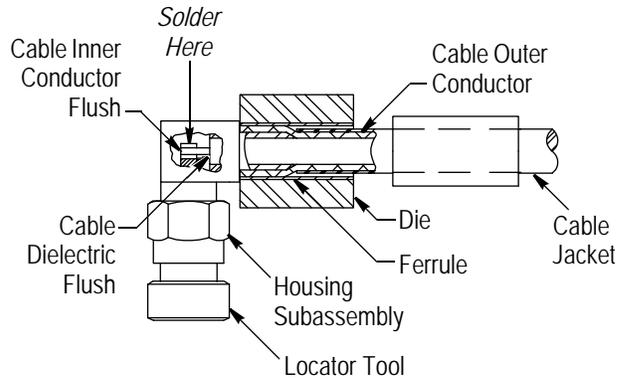

Figure 4
1. Slide the collar between the cable outer conductor and the cable dielectric. See Figure 4.
1. Secure the threads of the housing subassembly to the locator tool. See Figure 4.
5. Hold the cable dielectric and inner conductor flush as shown in Figure 4.